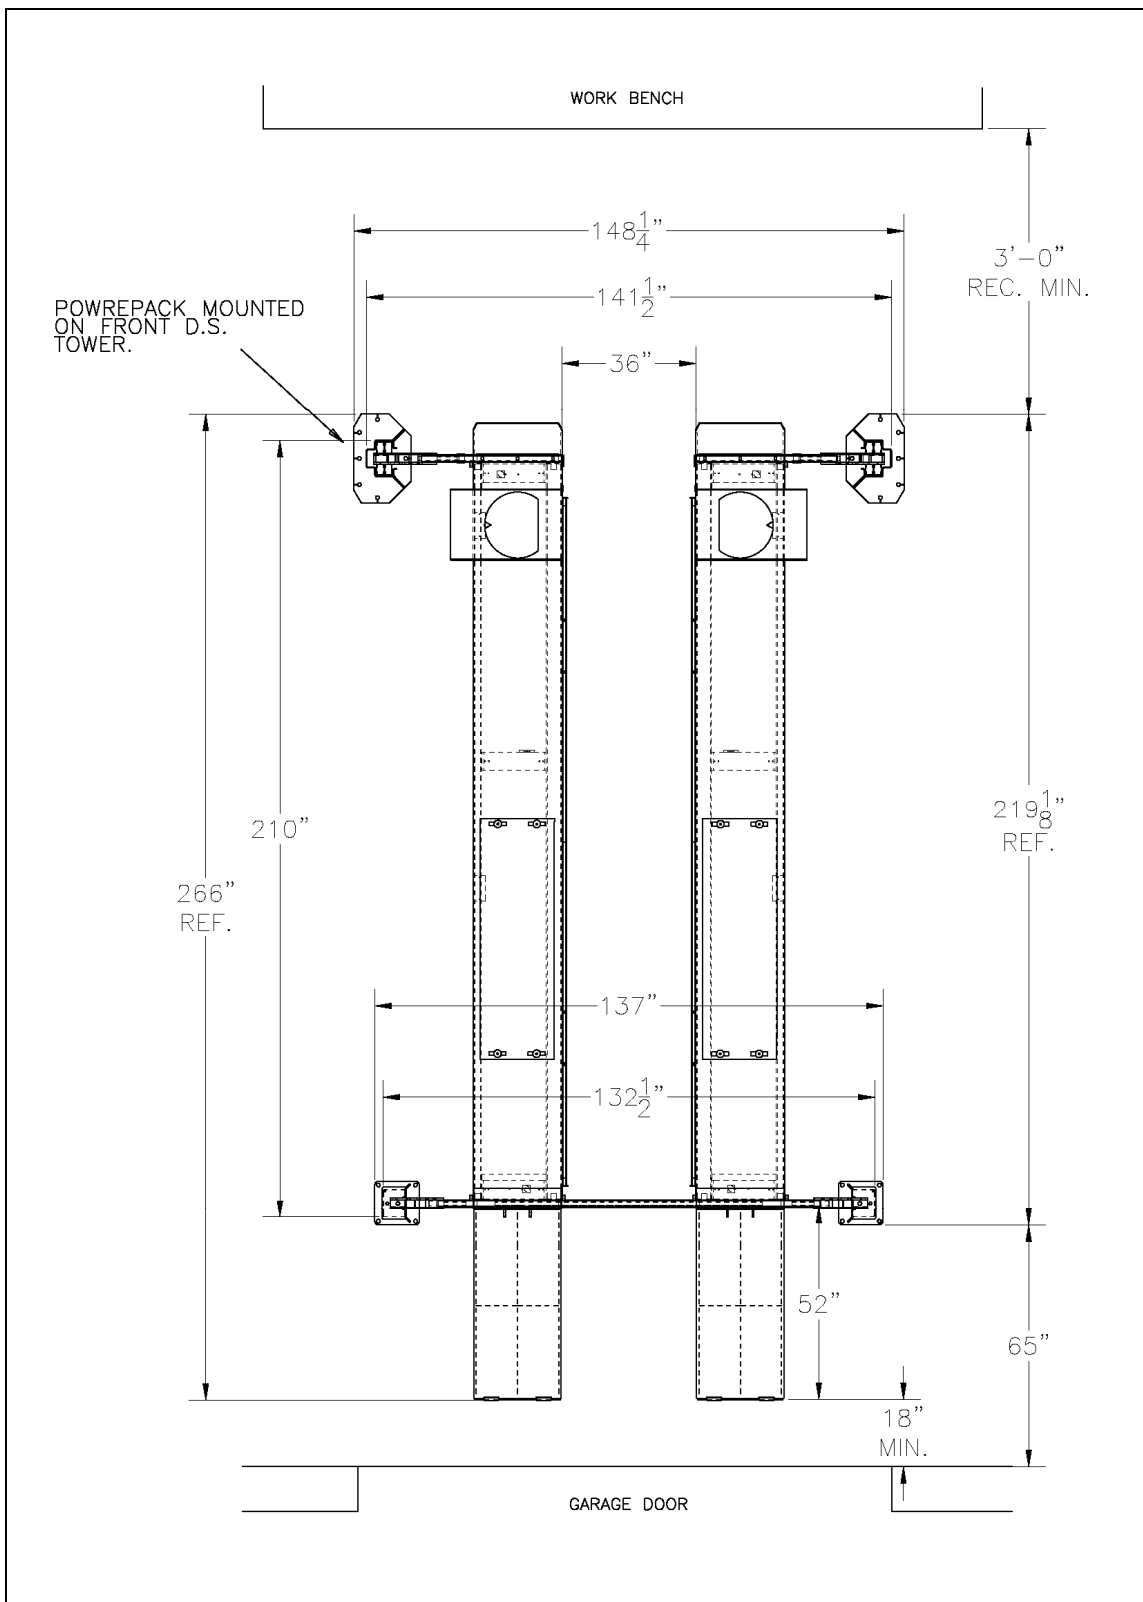
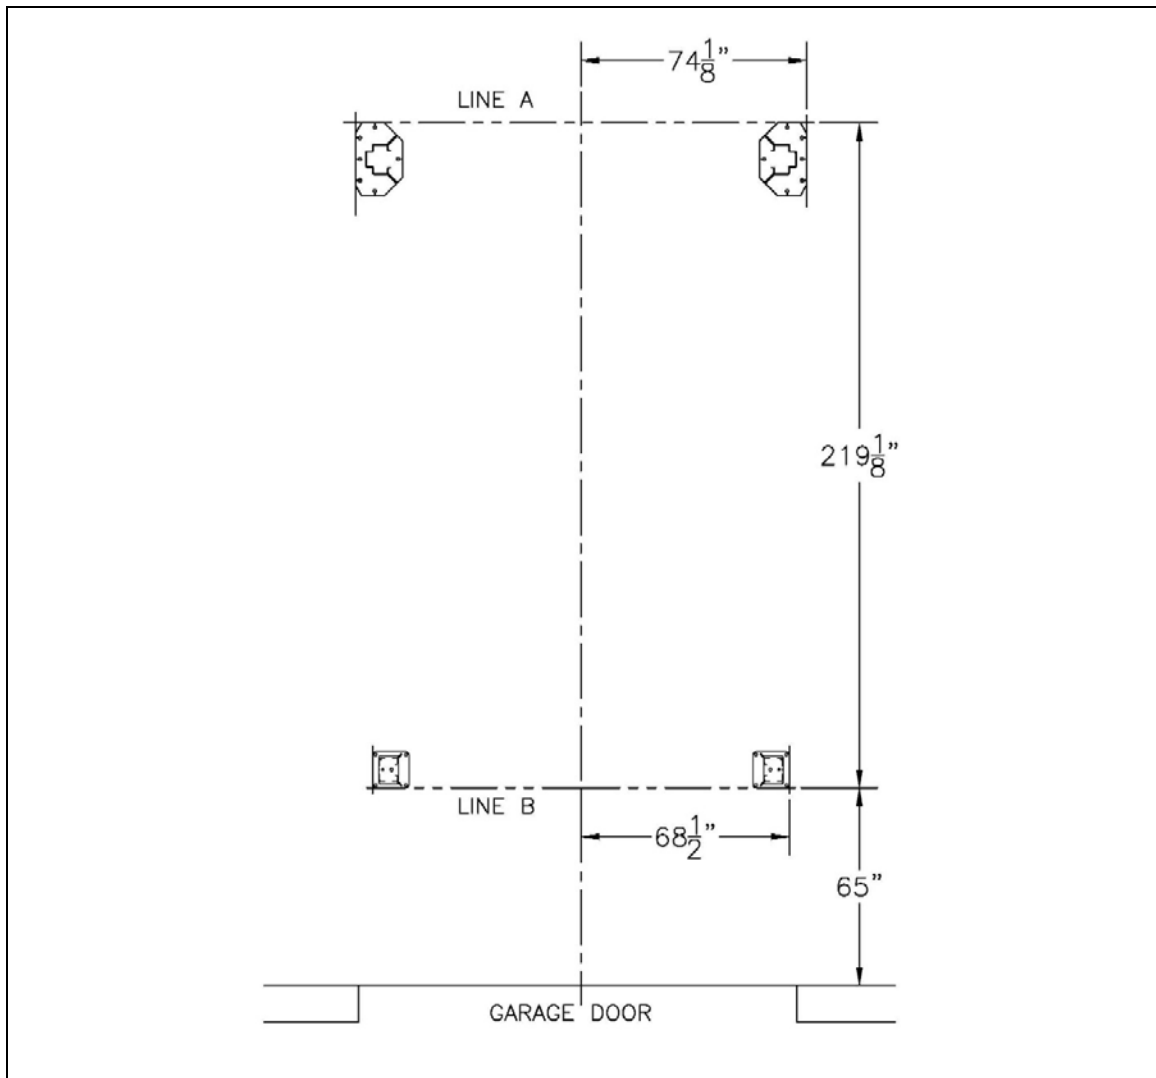

Figure 1. General lift specifications
Figure 2. Chalk line layout
- An outline matching the dimensions shown in Figure 2 will need to be marked on the floor. Refer to Figure 2 for outline dimensions. Refer to General Lift Specifications for overall lift dimensions. Figure 1.
- **Refer to Figure 2.** Make a chalk line parallel to the doorway at least $284\frac{1}{8}$ " in from the doorway. Call this line "A". This will be the location for the front face of the front posts baseplate.
- Stand front towers up and position as per bay layout. See Figure 1 and Figure 2.
NOTE: THE 36" DIMENSION IS CRITICAL FROM FIGURE 1. THIS WILL ALLOW JACKING BEAMS TO ROLL FREELY.
- Stand rear posts into position according to Figure 1 and Figure 2.
- Install the threaded stud end of the cables through the top of the post. Use a 7/8" flat washer, and two (2) 7/8"-14 UNF hex nuts with cable spacers as required, to compensate for uneven floors.